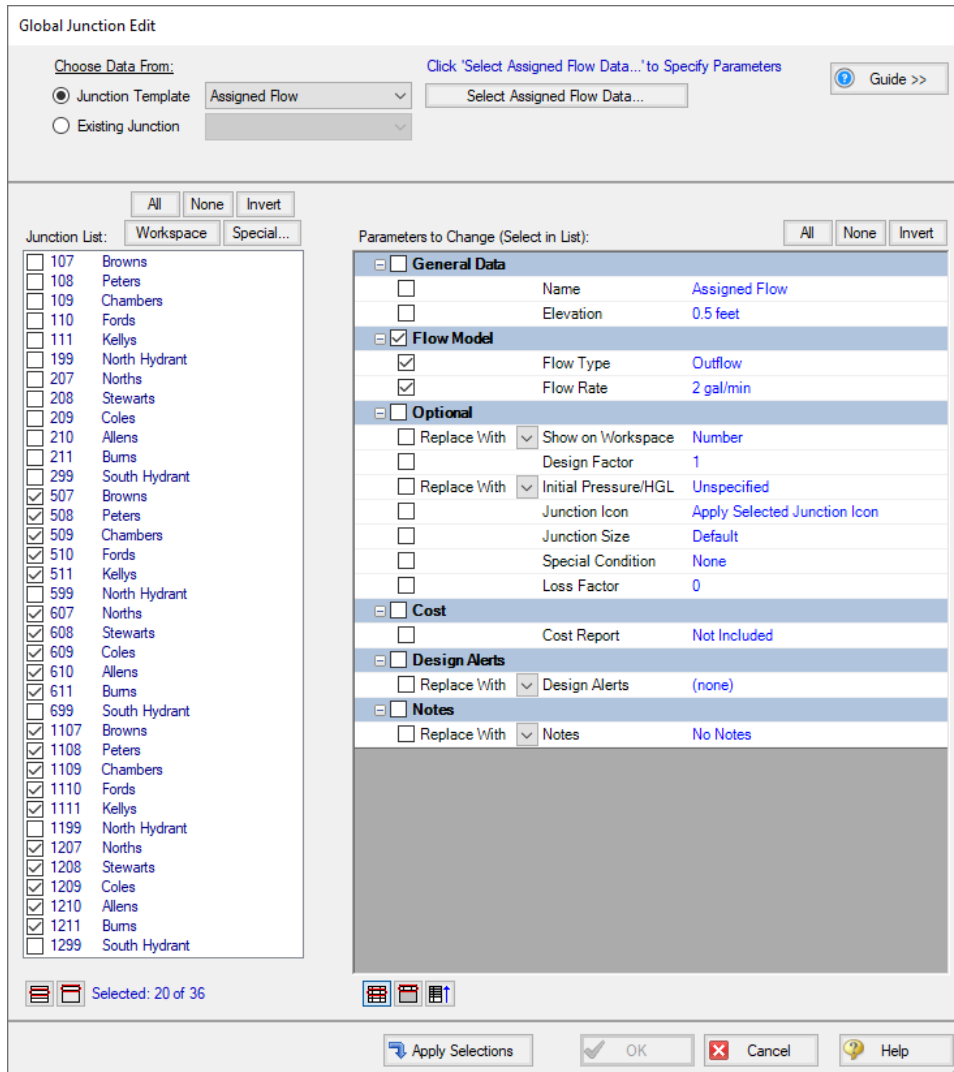

Figure 9: Global Junction Edit is used to change the flows in the homes for the dependent cases
8. Use **Global Junction Edit** to change all 20 of the Assigned Flow junctions at the Dependent Design Case homes (junctions 500's, 600's, 1100's, and 1200's) to an Outflow of **2 gal/min** (see Figure 9). Make sure to not change the Assigned Flow junctions that represent the hydrants.